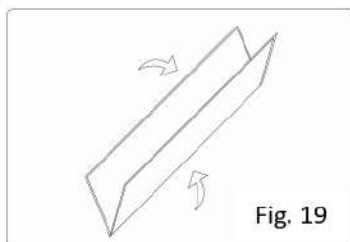

Fig. 19
1. Remove **ropes (G)** and **stakes (I)** from the ground.
5. Loosen and remove the ropes, **knob screws (E)** and **eyebolts (F)** from each leg.
6. Remove the frame **legs (B)** from the **folding frame (A)**.
7. Detach the **screen material (D)** from the **folding frame (A)** by carefully unsnapping each button as shown.
8. Fold **screen material (D)** in half, folding the bottom of the screen towards the top. Then, fold in half again in the same way. Lastly, fold the material into thirds to condense the length, see Fig. 19 – 21.